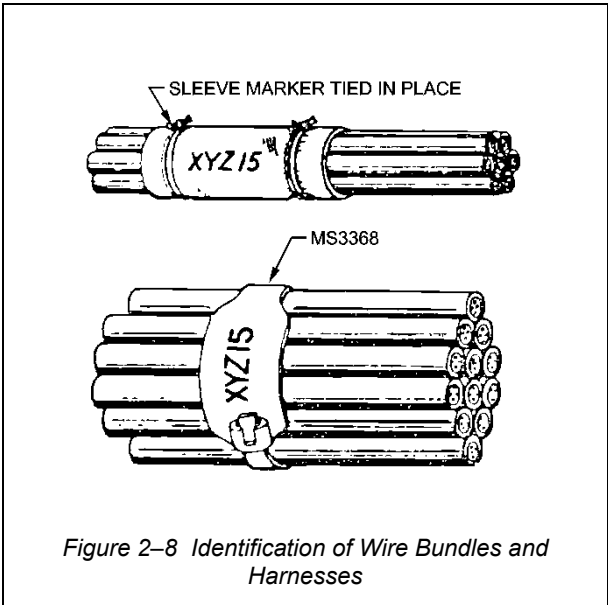

Figure 2-8 Identification of Wire Bundles and Harnesses
- c. Wire bundles up to 100mm in diameter may be identified by means of an MS3368 cable identification strap that incorporates a marking tab (refer Figure 2-8). Install as follows:
- (1) Stamp the wire identification code on the marking tab.
- (2) Pass the strap around the bundle with the ribbed side of the strap inside.
- (3) Insert the pointed end of the strap through the eye, and pull the strap snugly around the bundle.
- (4) Feed the tail of the strap through MS90387-1 tool, and slide the tool up to the eye of the cable identification strap.
- (5) Squeeze tool handles until strap is snug on the bundle.
- (6) Close tool handles all the way to cut off the excess strap.